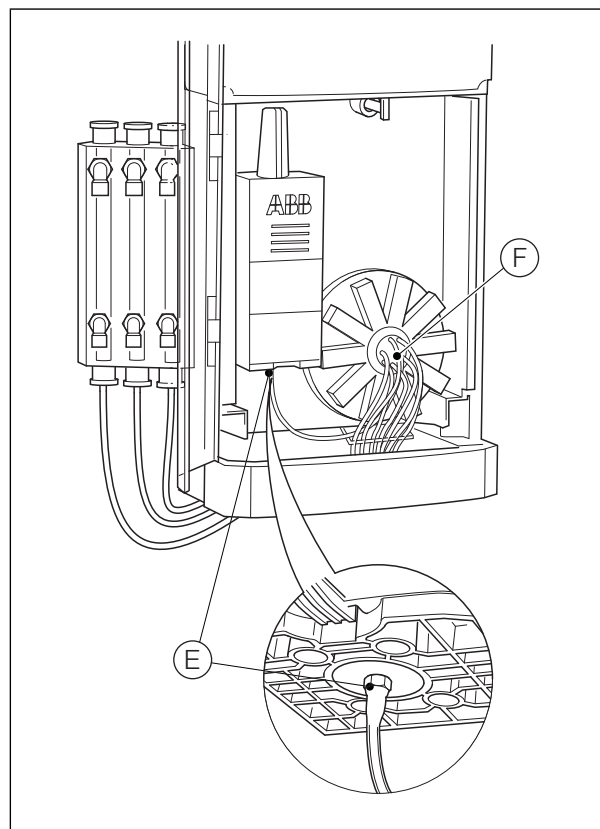

Fig. 13.6 Replacing Interconnecting Tube
3. Referring to Fig. 13.6:
- a. Disconnect the interconnecting tube (recorded in Section 13.3.4, step 4a) from the connector (E) at the base of the measurement cell assembly and discard.
- b. Fit the new interconnecting tube to the valve manifold center connection (F).
2. Referring to Fig. 13.6, connect the new interconnect tube to the connector (C) at the base of the measurement cell assembly.